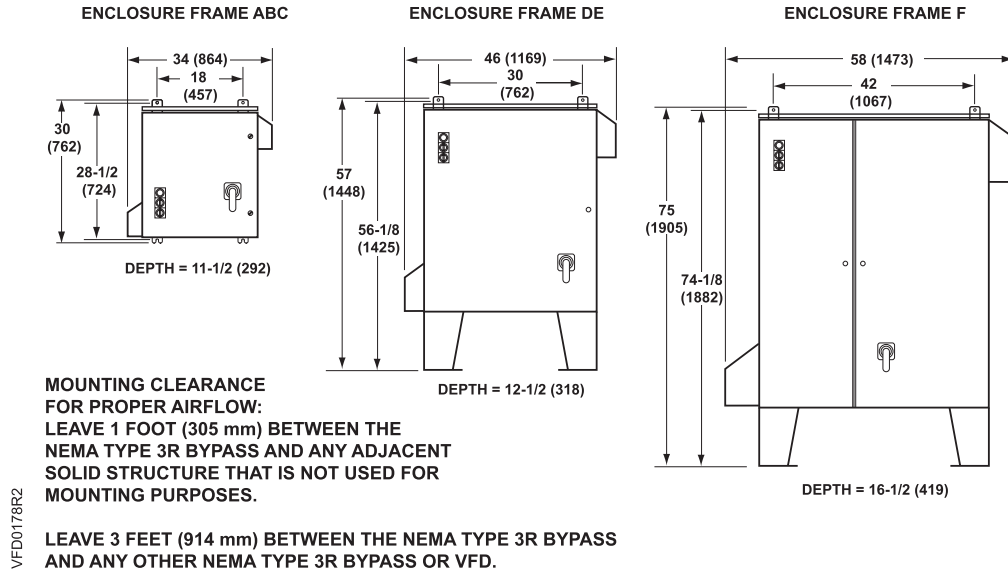

Figure 4. Type 3R Enclosure Dimensions in Inches (Millimeters).
2. Mount NEMA Type 3R/3RHE Bypass enclosure in location per job drawings. See Table 1 for approximate weights and see Figure 4 for dimensions. Secure enclosure in place.